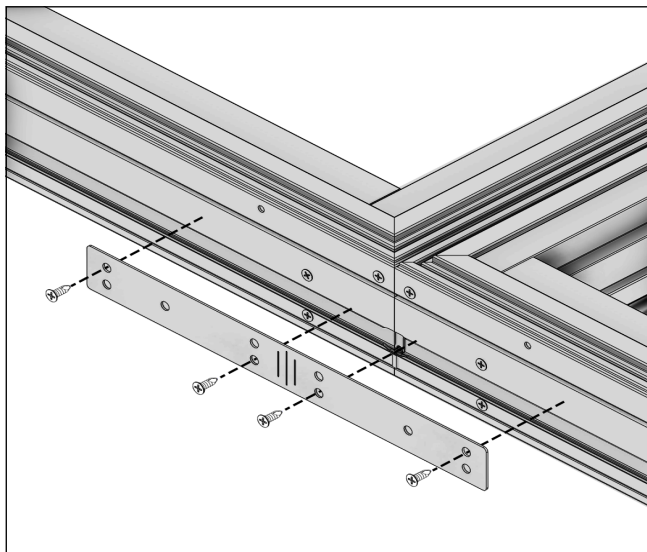

Figure 3 Remove shipping strap
2. Remove all shipping straps from mull joints. See Figure 3.